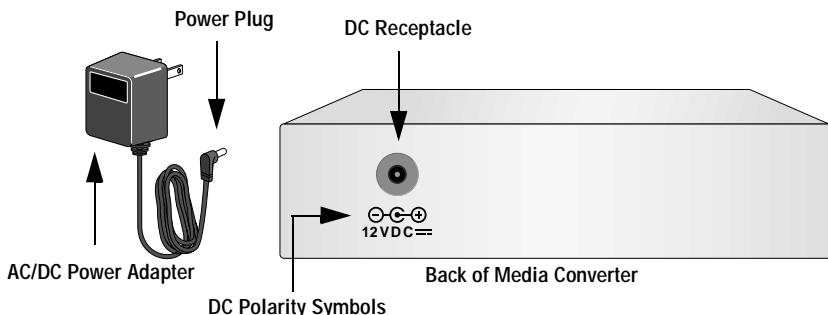

Figure 6 12 V DC Connector on Rear Panel
- If both end-nodes will use auto-negotiation to determine the duplex mode, or if both are pre-set to operate with the same duplex mode, such as half-duplex, set the switch to the A/N ON (IN) position. This is the default setting.
7. Plug the AC/DC power adapter into an appropriate AC power outlet and insert the power plug into the DC receptacle located on the back of the unit. Refer to Figure 6. **This step does not apply if you installed the unit in an AT-MCR12 chassis.**